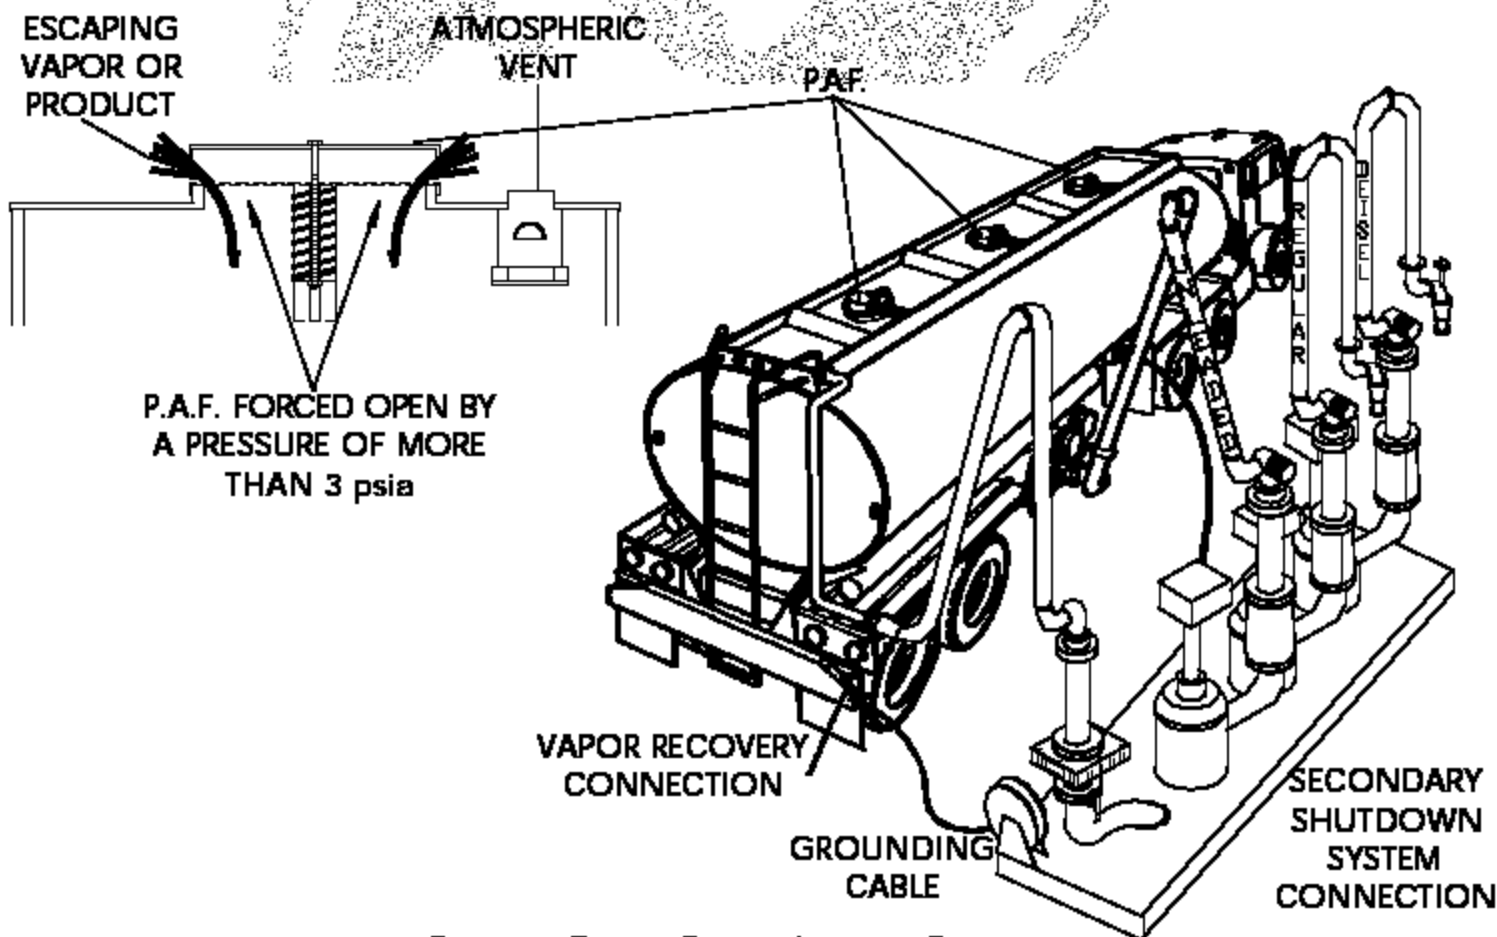

Figure 7. Typical Bottom Loading Operation
1. Ground the tank trailer (Figure 7).